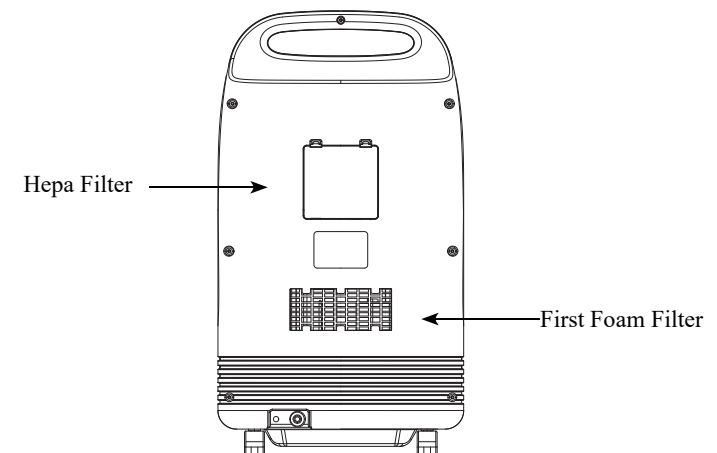

Figure 8
② Replace of high efficiency filter(Called Hepa filter)(Figure 8)